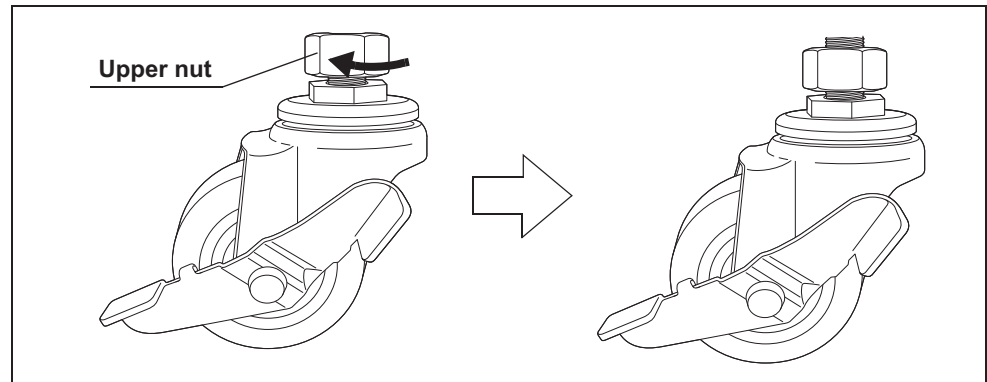

Figure 4.111
- 1 Using the provided wrench, turn the upper nut of each caster in the direction shown in Figure 4.111 to loosen the current height setting.